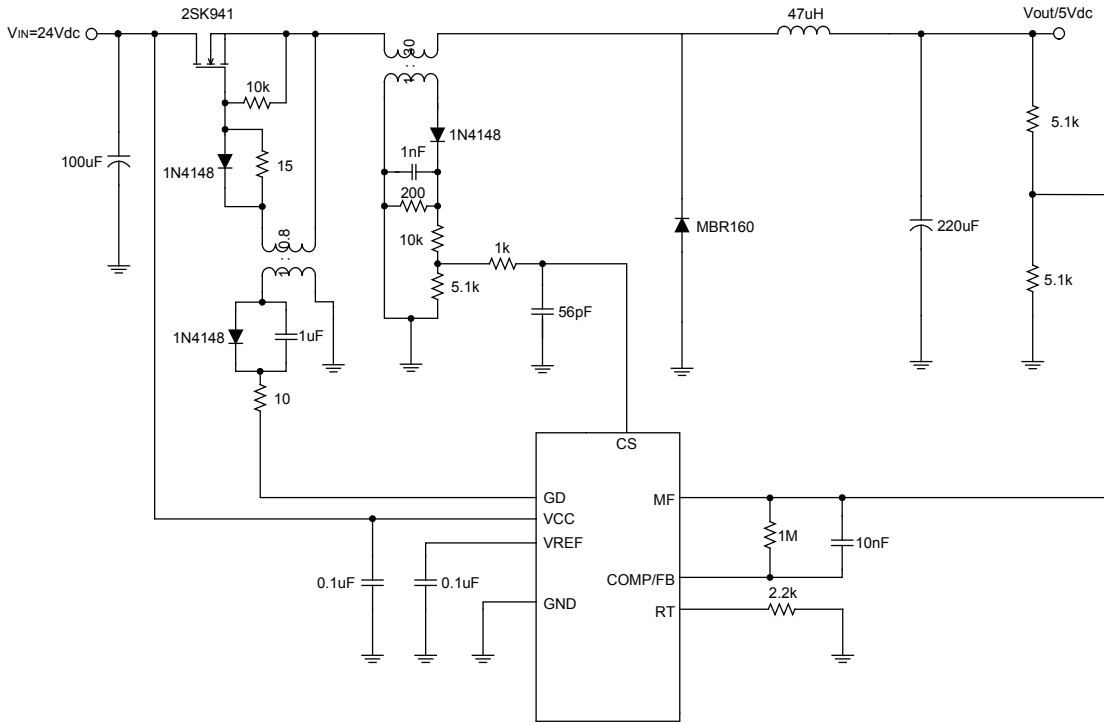

Figure 11. Constant Voltage Buck Regulator (High-Side Buck)
A Constant Voltage (CV) Buck (High-Side Buck) application circuit is shown in Figure 11. This circuit can be used with DC inputs of 24V or higher voltage and provides a Constant DC voltage output. The output power level can be changed by choosing a suitable inductor value, Transformer's turn ratio and power MOSFET, while the output voltage can be changed by choosing a suitable feedback resistor ratio.